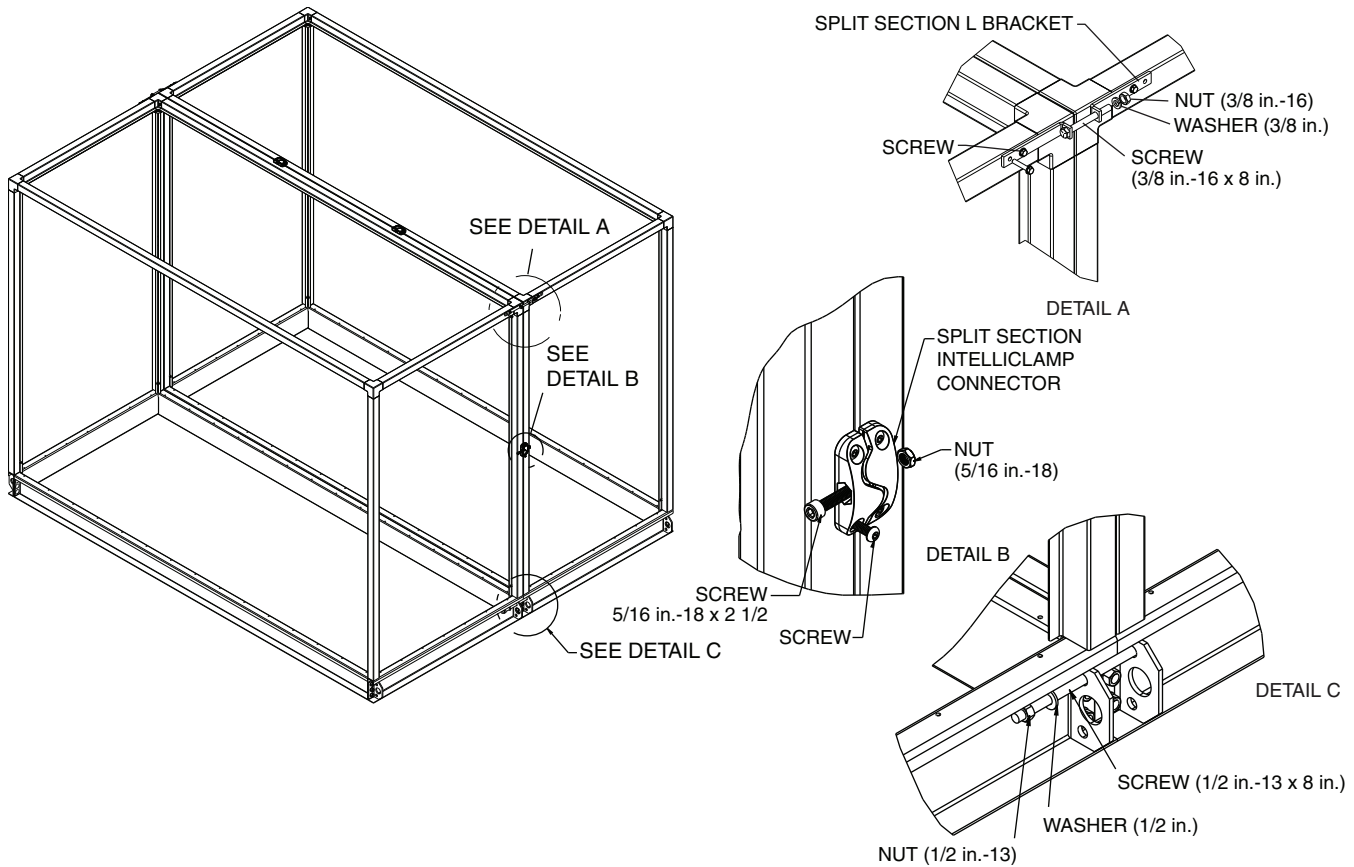

Fig. 30 — Attaching Split Sections — Non-Stacked Units and Lower Level of Stacked Units
- Pull baserails to contact bottom lifting lug connection. Do not fully tighten. See Fig. 30, Detail C.
- Align top brackets. Start the screw, but do not fully tighten. See Fig. 30, Detail A. For outdoor units, removal of the roof at the split is necessary to access the top brackets.
- On side of unit, when Intelliclamp connectors are present (sizes 36 and larger only), align Intelliclamp connector, start the screw, but do not fully tighten. See Fig. 30, Detail B.